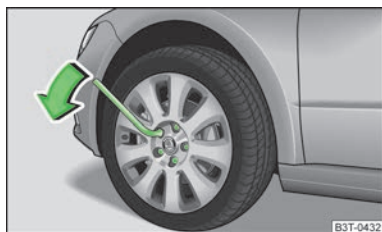

Fig. 173
- Grasp the end of the wrench and turn the bolt about **one** turn to the left » Fig. 173.